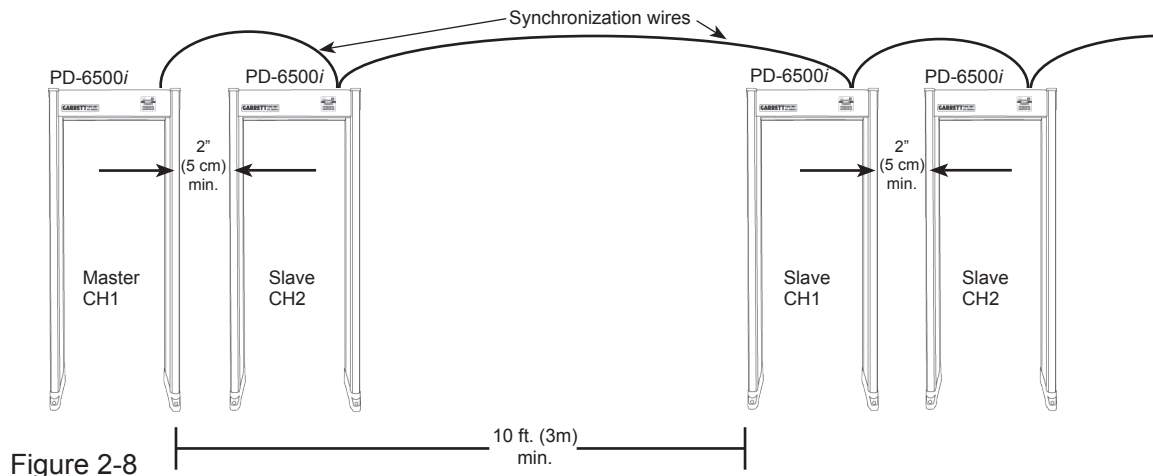

Figure 2-8
- All detectors are PD 6500i's. (See Figure 2-8.)